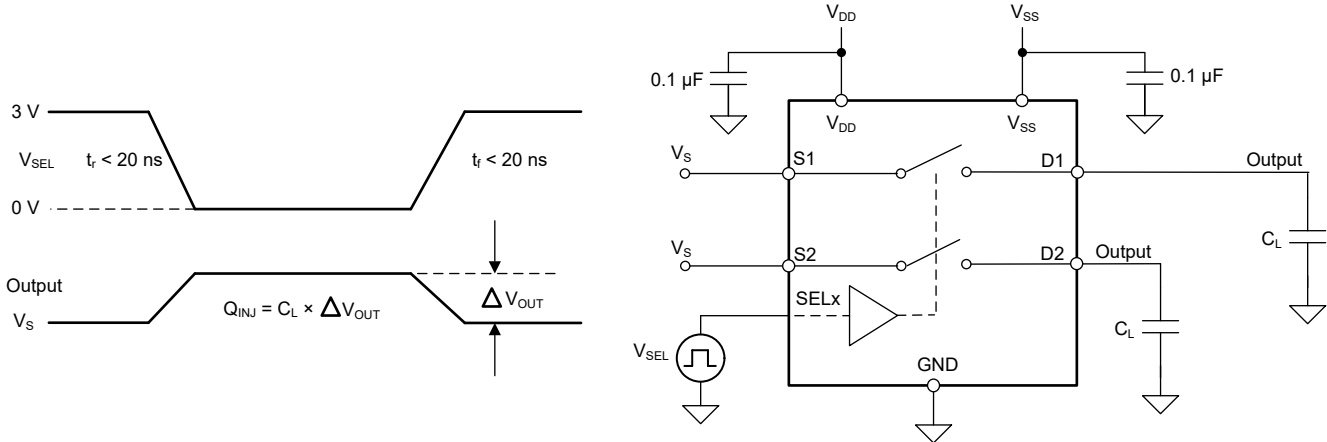

Figure 6-7. Charge-Injection Measurement Setup
The TMUX722x has a transmission-gate topology. Any mismatch in capacitance between the NMOS and PMOS transistors results in a charge injected into the drain or source during the falling or rising edge of the gate signal. The amount of charge injected into the source or drain of the device is known as charge injection, and is denoted by the symbol Q_C . Figure 6-7 shows the setup used to measure charge injection from source (Sx) to drain (D).